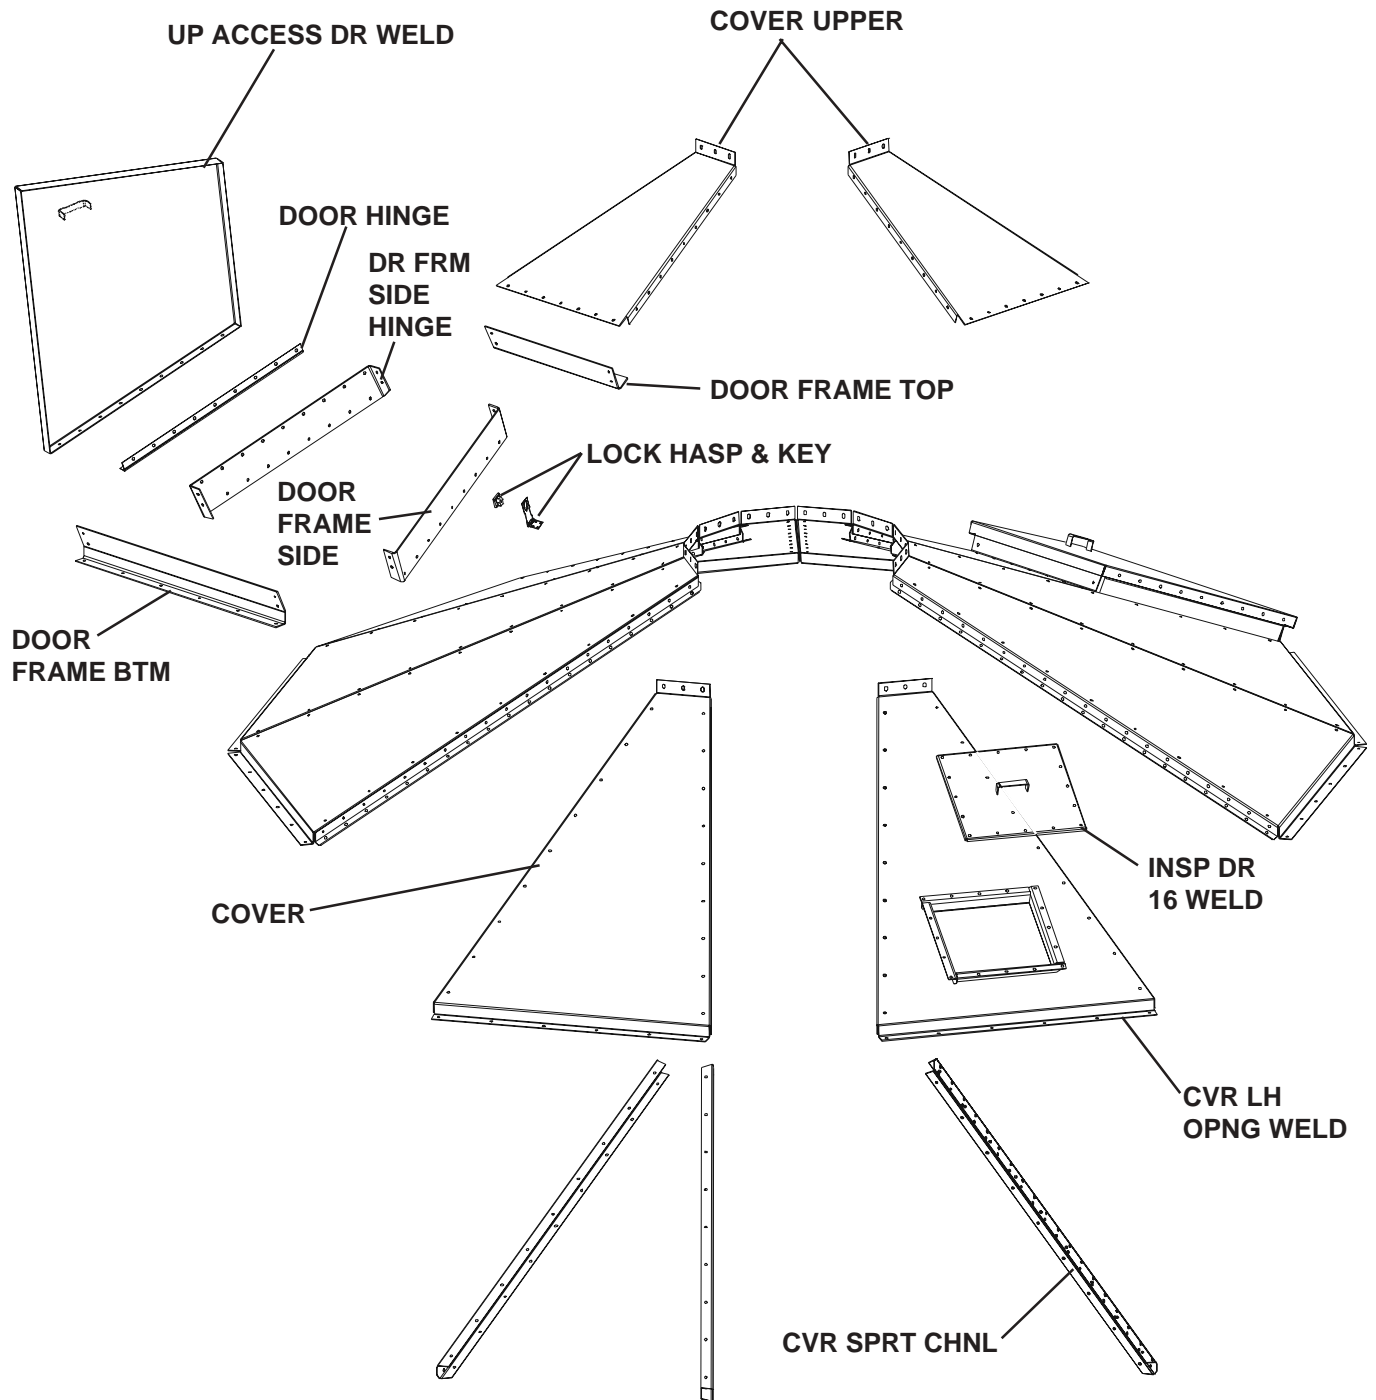

Fig. 10-4
9. Select a standard COVER sheet and install it on the opposite side of the Drive Mount in the same fashion. Note that the Roof Sheets are universal, as are the Cover Support Channels. This will leave holes which are not used in the installation. Remember, DO NOT install the Bin Bolts above the Drive Side Plates. On the largest units, roof cover sheets are made up in two parts. (See Fig 10-4)
11. The Access Doors are assembled by bolting the **DOOR FRAME BTM** on the Mid Channel flange over sealant. The **DR FRM SIDE HINGE** bolts to the left side of the opening over sealant using the 3/8" x 1-1/4" Gr. 5 Bolts extending through the Roof sheet flange and an added Stiffener Channel. The connection between the Door Frame Bottom and Side requires the Flanged Nuts to be on the inside for proper door installation. The **DOOR FRAME SIDE** installs in the same fashion on the right side of the opening. (See Fig 10-4)
14. The DOOR HINGE attaches to the UP ACCESS DR WELDment using 3/8" x 1-1/4" Gr. 5 Bolts and Flanged Nuts. The hinge is oriented with the hinge pin adjacent the edge of the Door Weldment and the nuts to the outside of the door. This assembly is then bolted in place on the Door Frame Side. (See Fig 10-4)
15. The Door installation is completed by attaching the **LOCK** and **HASP**. Close the Door and hold the Lock on the edge of the door in the area of the Door Handle. Using four (4) of the Machine Screws and Nuts provided, fasten the lock to the side of the Door. Break off the excess screw on the inside of the door. Place the Hasp over the Lock and drive two (2) self drilling fasteners in the outer holes of the Hasp. Check the Lock for proper operation. (See Photos on page 60.)